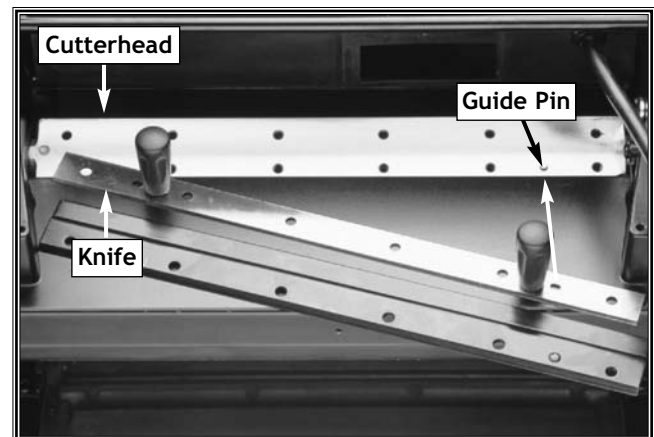

Figure 22. Position the knife on the cutterhead.
4. Use the magnets to lower and seat the knife onto the cutterhead, and make sure the guides fit into the holes and the knife sits flat on the cutterhead. See **Figure 22**.